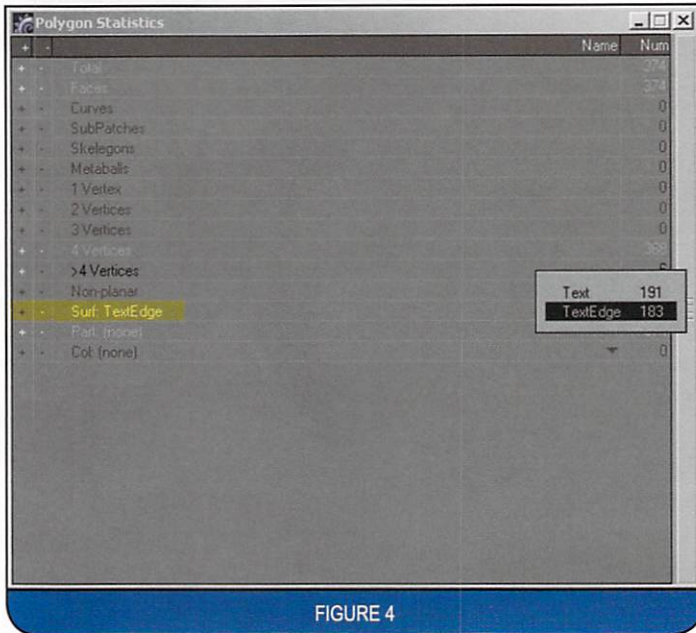

FIGURE 4
- 18) Select the "TextEdge" surface and click on the "+" to select the polygons with the TextEdge surface. See Figure 4.
- 20) Activate the "Extrude" tool (E).